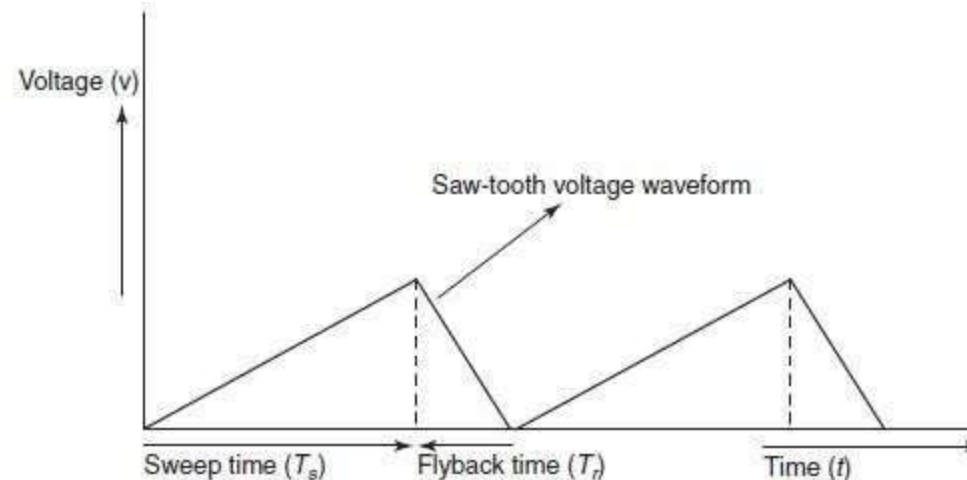

Figure 14-6 Typical saw-tooth waveform applied to the horizontal deflection plates
- A voltage with such characteristics is called a ramp voltage. If the voltage decreases rapidly to zero—with the waveform repeatedly produced, as shown in Fig. 14-6—we observe a pattern which is generally called a saw-tooth waveform.